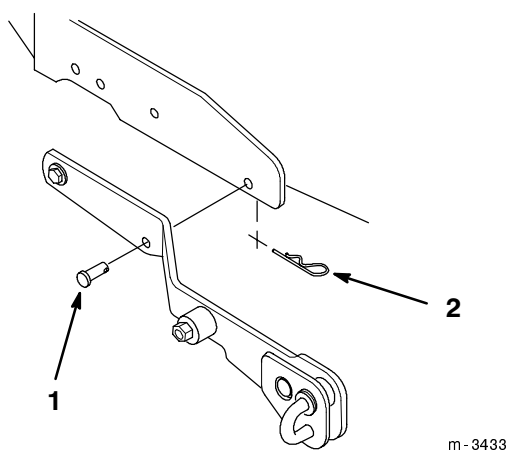

Figure 6
4. Install clevis pins into each side of the lift assembly in the positions shown in Figure 6.